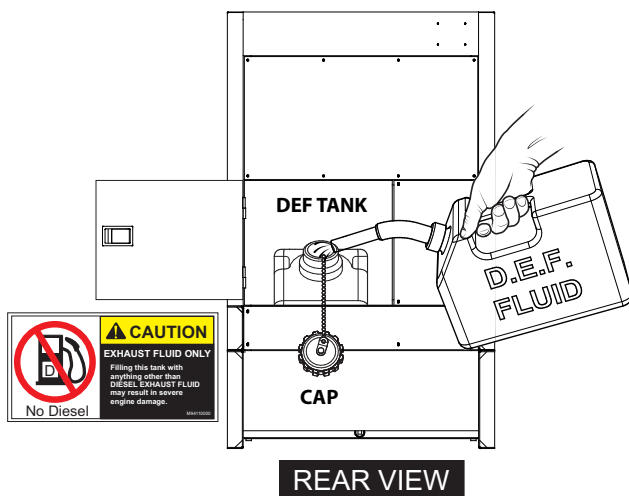

Figure 41. DEF Tank Filling
2. Open the enclosure door and remove the filler cap from the DEF tank (Figure 41).